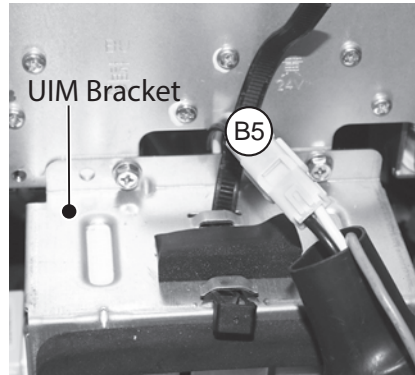

Figure 51 - Wiring harness "B5" location
- 15 Disconnect wiring harness B5. Reference Figure 51 for location.